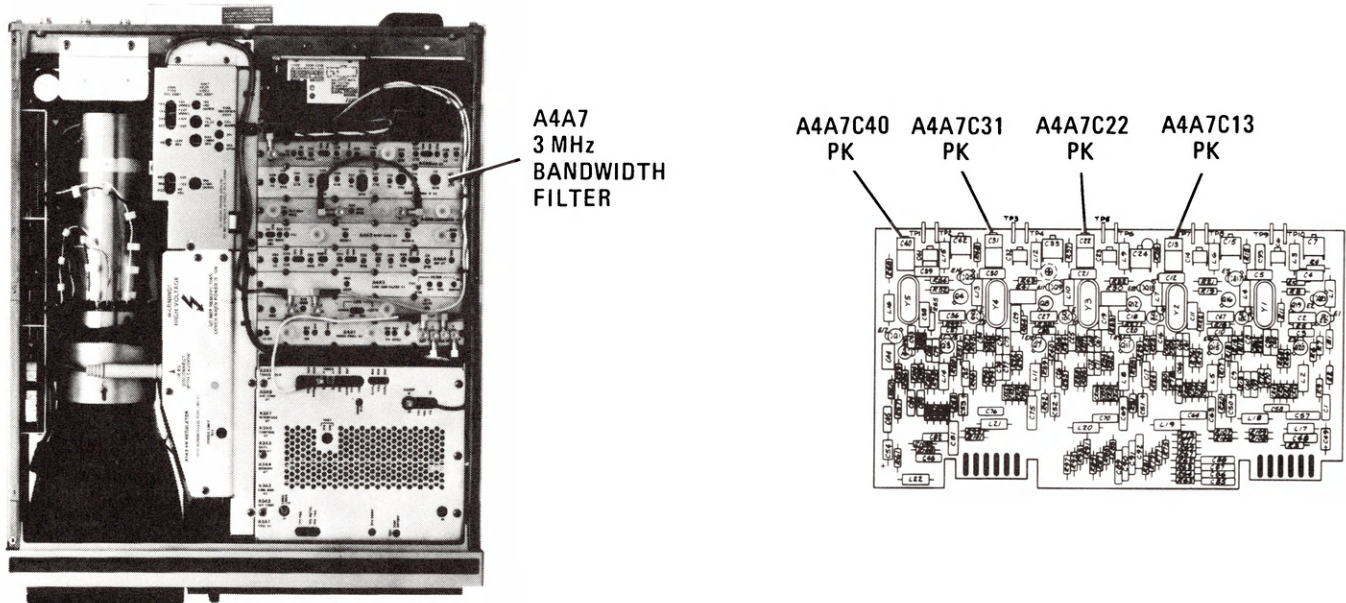

Figure 5-24. Location of 3 MHz PEAK Adjustments
13. Adjust A4A7C13 PK for maximum peak-to-peak signal on Channel B display. Refer to Figure 5-24 for location of adjustment. If unable to achieve a "peak" in signal amplitude, increase or decrease value of A4A7C12. Refer to Table 5-3 for range of values.
16. Adjust A4A7C22 PK for maximum peak-to-peak signal on Channel B display. Refer to Figure 5-24 for location of adjustment. If unable to achieve a "peak" in signal amplitude, increase or decrease value of A4A7C21. Refer to Table 5-3 for range of values.
19. Adjust A4A7C31 PK for maximum peak-to-peak signal on Channel B display. Refer to Figure 5-24 for location of adjustment. If unable to achieve a "peak" in signal amplitude, increase or decrease value of A4A7C30. Refer to Table 5-3 for range of values.
23. Adjust A4A7C40 PK for maximum signal amplitude on 8566A CRT display. Refer to Figure 5-24 for location of adjustment. If unable to achieve a "peak" in signal amplitude, increase or decrease value of A4A7C39. Refer to Table 5-3 for range of values.